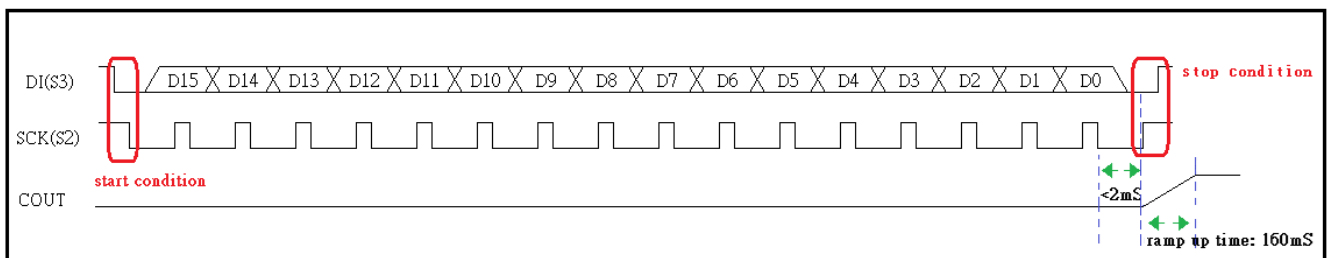

Fig. 17 Power-Down command timing
- a. Command timing reference Fig. 17 Power-Down command timing.